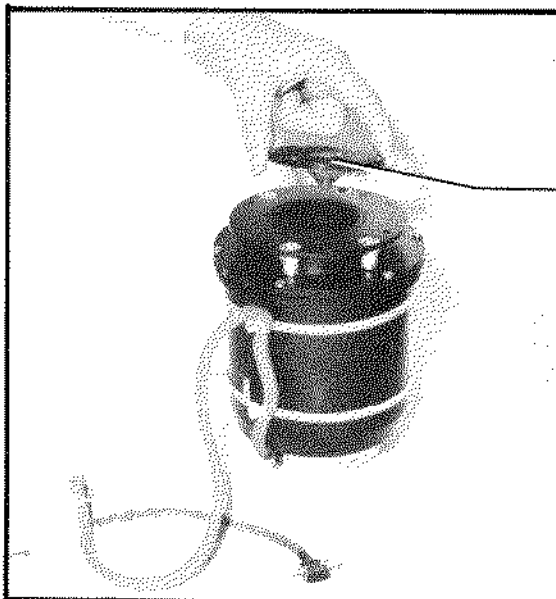

Fig. 3-11:
- Carefully place the insert on the outer sphere cover (cf. Fig. 3-11).